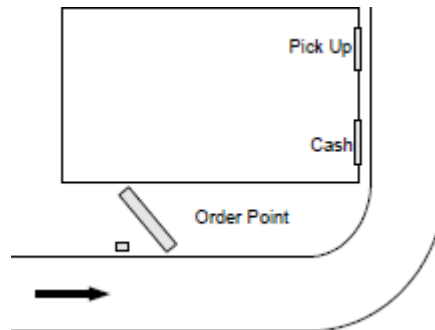

Figure 1.
- A *Single Drive-Thru* (see Figure 1) is the most common configuration. It is comprised of one lane of traffic with one order point, and one or two drive-thru windows for payment and pick up.